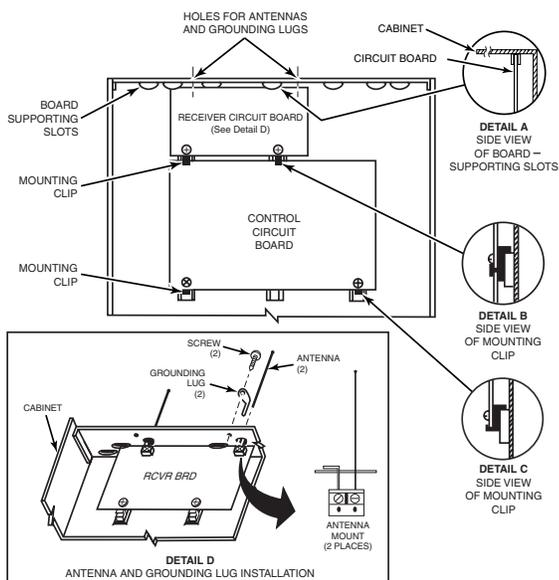

Figure 2. Installing the 5883H Board in the Control's Cabinet
Mounting inside the control's cabinet (refer to Fig. 2):
3. Hang two short (black) mounting clips (provided) on the raised cabinet tabs in the cabinet, as shown in Detail B of Figure 2.
3. Mount the module in the selected location. For greatest security, use all four mounting holes (two key slot holes and two round holes) in the plastic base. (Refer to Detail D in Figure 2 above.)